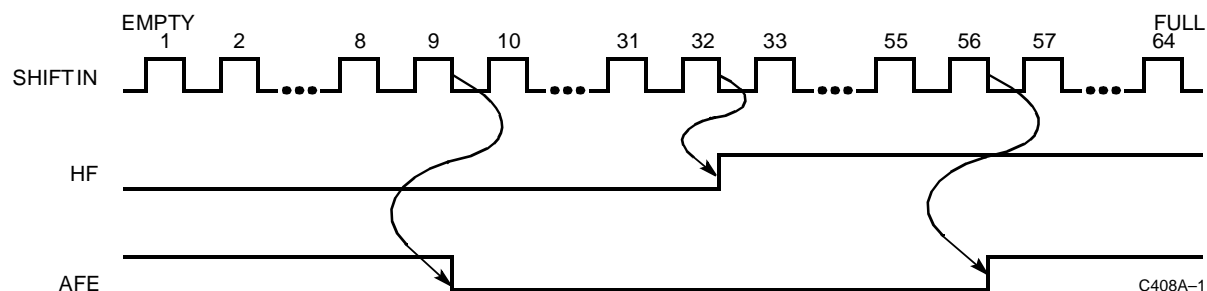

Figure 1. Shifting Words In
Two flags, almost full/almost empty (AFE) and half full (HF), describe how many words are stored in the FIFO. AFE is HIGH when there are 8 or fewer or 56 or more words stored in the FIFO. Otherwise the AFE flag is LOW. HF is HIGH when there are 32 or more words stored in the FIFO, otherwise the HF flag is LOW. Flag transitions occur relative to the falling edges of SI and SO (*Figures 1 and 2*).